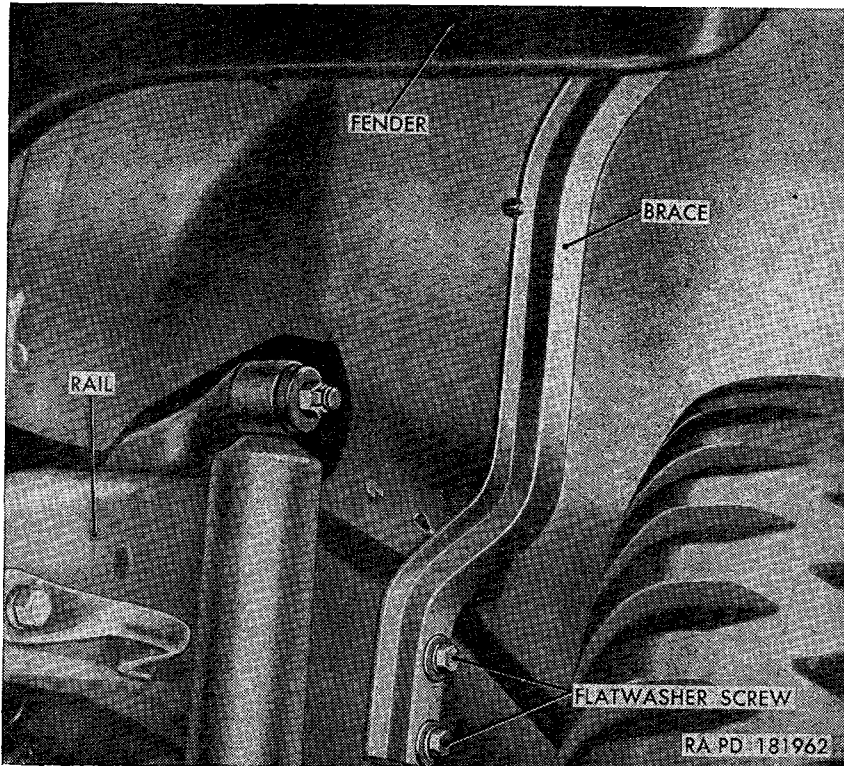

Figure 180. Fender brace of left front fender secured to frame left side rail (M38A1).
- (7) Remove the two lockwasher screws and flat washers securing the fender brace to the frame side rail (fig. 180).
- (8) Pull fender to the left and remove from vehicle.
- (9) Remove the upper and lower front fender-to-cowl side panel antisqueak (webbing) from the body cowl.
- (10) Remove the clips used to secure the electrical cables and fuel lines to the fender.
- (1) Install the clips securing the electrical cables and fuel line on the fender.
- (2) Cement new lower and upper front fender-to-cowl side panel antisqueak (webbing) in place on the body cowl.
- (3) Position fender on the body, alining fender mounting holes with body cowl, radiator guard, and frame mounting holes.
- (4) Secure the fender brace (fig. 180) to the frame side rail with two $\frac{7}{16}$ -inch ID, 1-inch OD, 0.083-inch thick flat washers and $\frac{3}{8} \times 1\frac{1}{2}$ lockwasher screws.